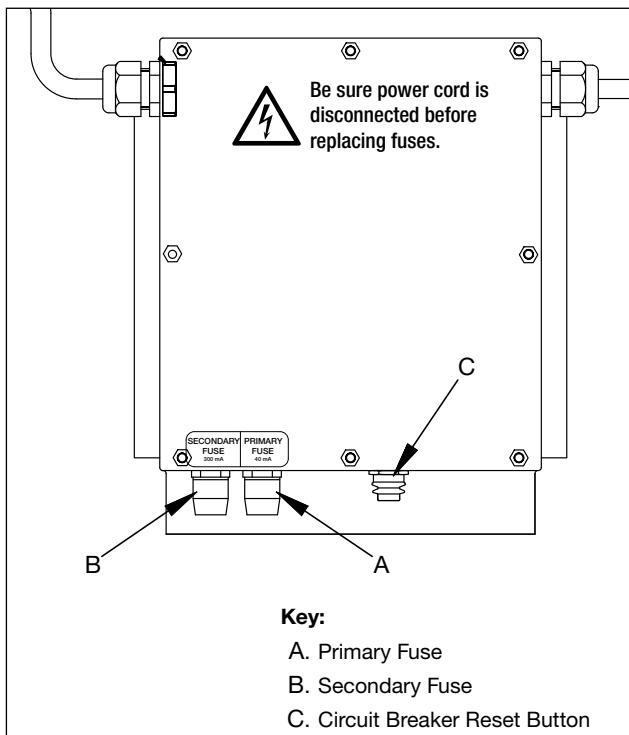

Figure 9, Fuse and Reset Button Locations, Single-Phase Models
6.4 Fuse Replacement (See Figures 9 and 10)
On jacks equipped with a single-phase electrical system, the fuses are located on the lower portion of the jack electrical enclosure. The fuse holders are mounted on the outside of the enclosure and can be assessed without removing the enclosure cover. See Figure 9.
Jack Model Beginning with:	(See figures 9 and 10 for fuse locations)